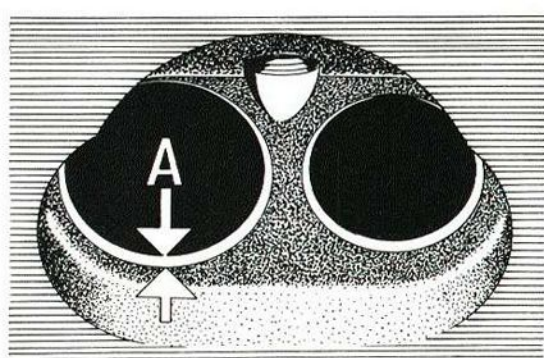

Fig. 2-32. Valve seat width  $A=2$  mm (0.08")
2. Grind the valve seats. Use an electrically driven grinder or a hand milling cutter. A pilot spindle must be carefully fitted before work is started and any worn guides must be replaced with new ones. The seat should be ground until a good sealing surface is obtained. The angle is  $45^\circ$  and the width of the sealing surface should be approx. 2.0 mm (0.08"). See "A" Fig. 2-32. If the sealing surface is too wide after grinding, it can be reduced by using a  $70^\circ$  grinding stone from the inside and a  $20^\circ$  grinding stone from the outside.